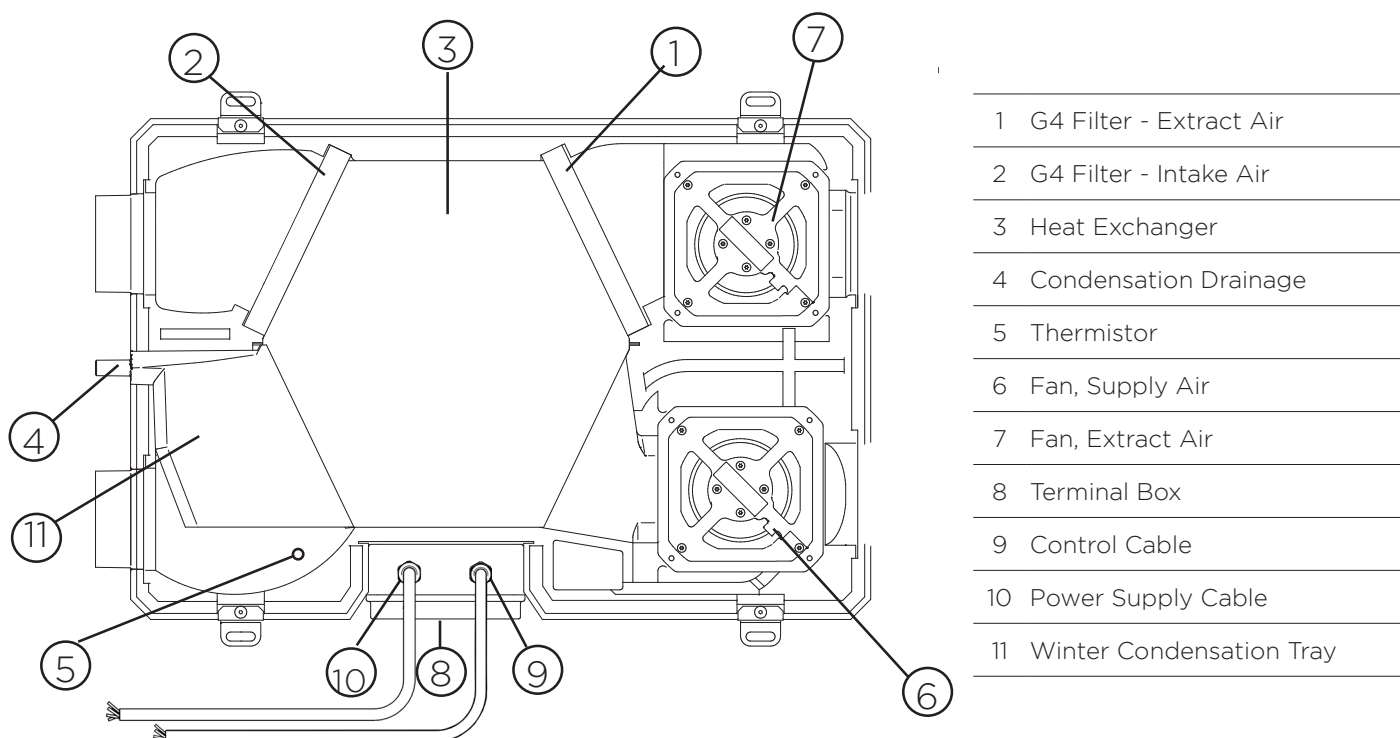

Fig. 8.a Internal components
- Clean the filters every 3 months with a vacuum cleaner (Fig. 8.b-c-d).
- Clean the filters every 3 months with a vacuum cleaner (Fig. 8.e-f-g).
- Clean the heat exchanger every year with a vacuum cleaner. This may differ per situation depending on internal and external environmental conditions and on frequency of filter cleaning (Fig. 8.e-f-h-i-j-k-l).
Clean the fans every year with a vacuum cleaner. This may differ per situation depending on internal and external environmental conditions and on frequency of filter cleaning. Do not move the balance clips of the fan (Fig. 8.e-f-h-i-m).